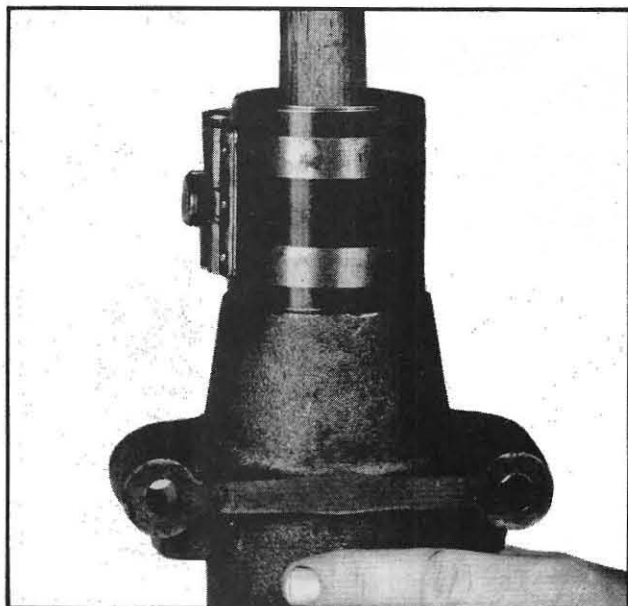

Fig. 330
5. Stagger the ring gaps on the piston at least 90 degrees apart. Using a ring compressor, replace the ram piston in the ram cylinder as shown in Fig. 330.